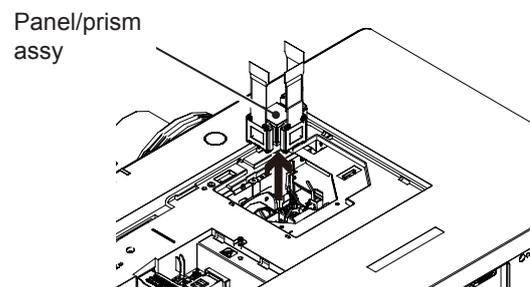

Fig. 5
- 4** Loosen 3 screws-D and take the LCD panel/prism assy upward off (Fig. 5/ Fig. 7).
- 5** Remove 2 screws-E on each stopper of the polarized glass assy and take the polarized glass assy upward off (Fig. 5/ Fig. 7).